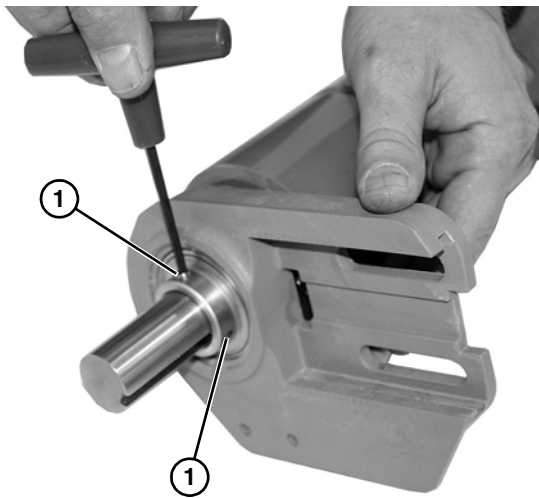

Figure 45
- Loosen two set screws (Figure 45, item 1).